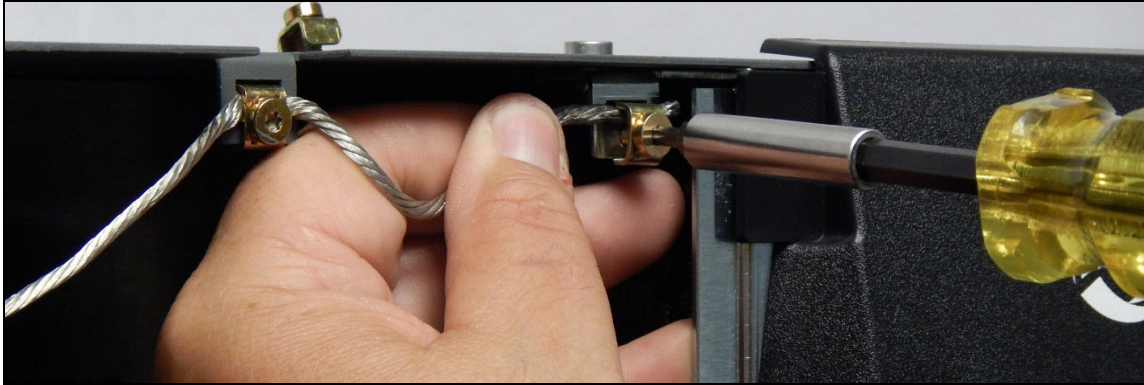

Figure 6. Remove Ground Wire From Display Door
- Figure 6. Remove Ground Wire From Display Door 6
6. Remove the Ground wire at the top of the Display door (see Figure 6).
25. Replace the ground wire to the Display door (see Figure 6).
9. Replace the ground wire to the Display door (ref. Figure 6).